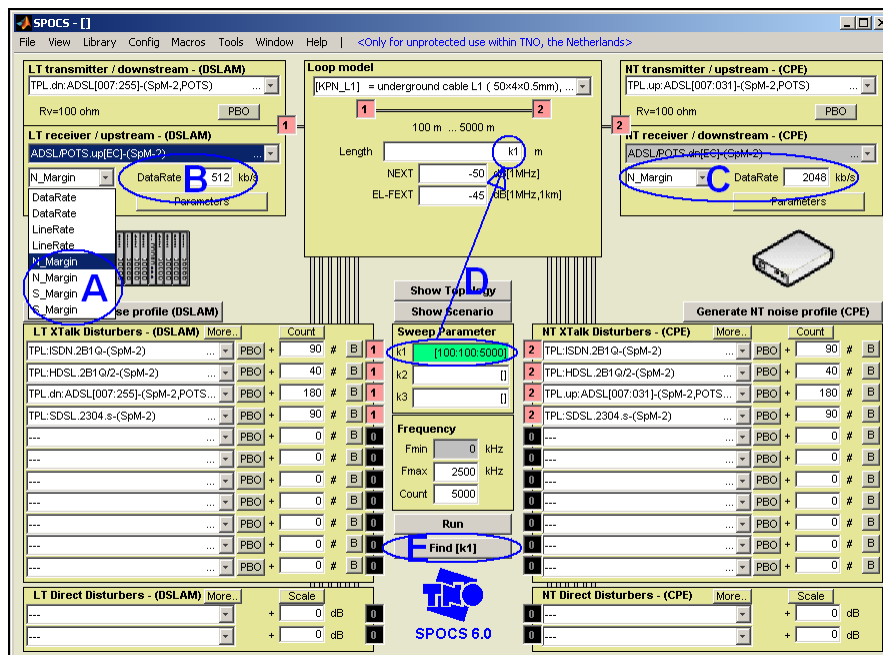

Figure 28: Relevant settings for a reach calculation.
Figure 28 highlights the relevant steps to enable such a reach calculation.
- [D] Specify the loop length as a value that has to be swept during the iteration. Simply define the length as the result of sweep parameter “k1”, and subsequently define a proper sweep interval. In the example of figure 28, we have defined the sweep as “[100:100:5000]” meaning an iterative search between $\min(k1)=100$ and $\max(k1)=5000$. The value for step is irrelevant and will be ignored